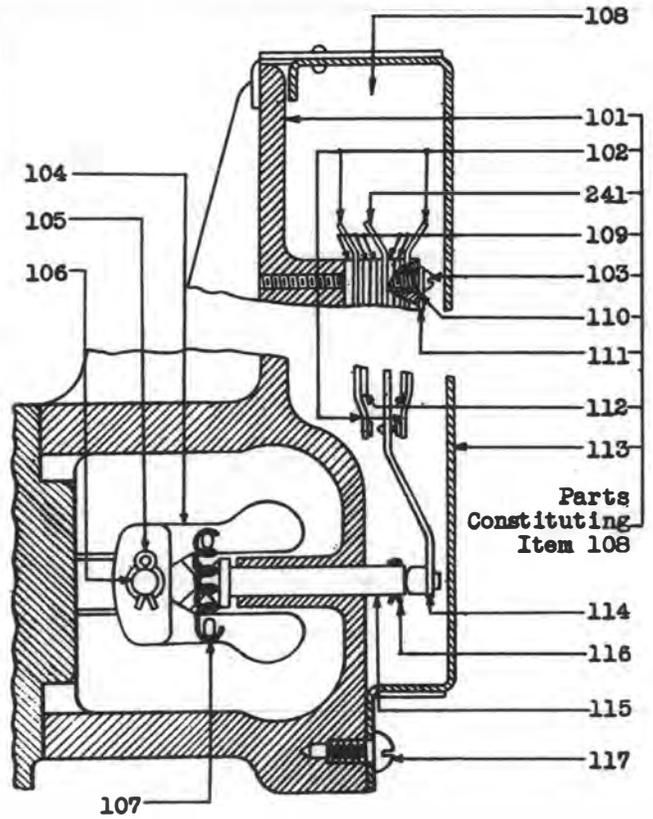

Fig. 11 - Cast Weight Alarm Mechanism
* When it is necessary to order a retractile spring shown as Item 107 in Fig. 11, order governor retractile spring per D number of drive.